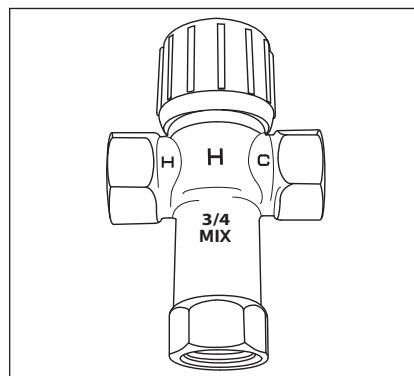

Figure 8 - Thermostatic Mixing Valves installed at each point-of-use can help avoid scalding.
- Point-of-use Thermostatic Mixing Valves (Figure 8 on page 8)
Install Thermostatic Mixing Valves (Figure 8) to regulate the temperature of the water supplied to each point-of-use (for example, the kitchen sink, bathroom sink, bath and shower). Consult the valve manufacturer's instructions or a qualified person.
⚠ WARNING! Even if the water heater thermostat is set to a relatively low temperature, hot water can scald. Install Thermostatic Mixing Valves at each point-of-use to reduce the risk of scalding (see page 4 and Figure 8).